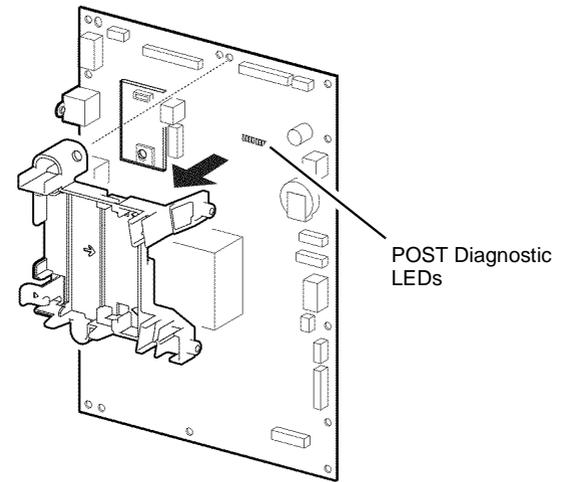

Figure 1 POST diagnostic LEDs
2. To view the LEDs, remove the option HDD PL 18.1A Item 91 (B400) or PL 18.1B Item 91 (B405), and HDD bracket, PL 18.1A Item 4 (B400) or PL 18.1B Item 4 (B405) if fitted, Figure 1.